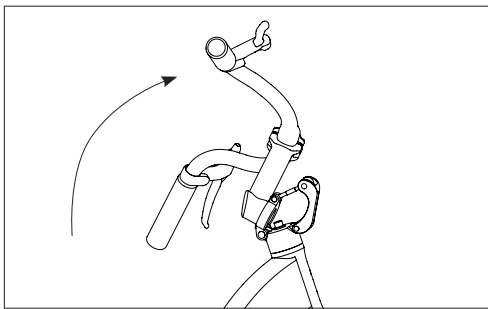

Fig. 41: Folding stem pivot
1. Pivot the stem and handlebars to the upright position (Fig. 41).